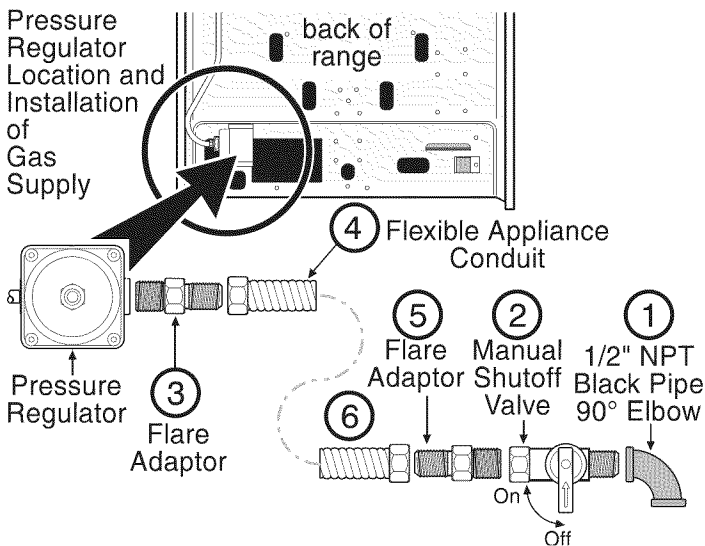

Fig. 33
This range is pre-set to operate on 4" natural gas manifold pressure. The Pressure Regulator is connected to the manifold and **MUST** be connected in series with the gas supply line (See Fig. 33 on page 10).
- 1.) Install 1/2" NPT 90° Black Pipe Elbow to the gas supply pipe stub (See Fig 33)
- 2.) Install an external gas Shut-Off Valve (manual) to gas supply line in an easily-accessible location outside of the range. Be sure you know how and where to shut-off the gas supply to the range (See Fig 33).
- 3.) Install Flare Adapter\* to gas Pressure Regulator (See Fig. 33).
- 4.) Attach flexible Appliance Conduit to Flare Adaptor on Pressure Regulator (See Fig 33).
- 5.) Install 2nd Flare Adapter\* to external manual Shut-Off Valve (See Fig 33).
- 6.) Attach flexible Appliance Conduit to Flare Adaptor on Shut-Off Valve (See Fig 33).